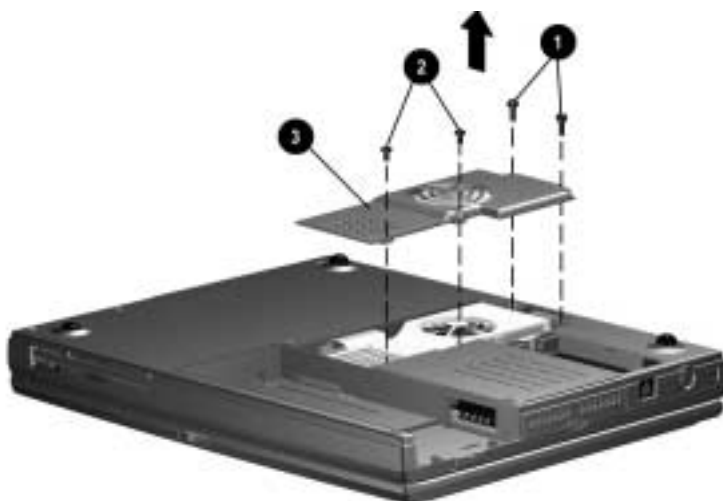

Figure 5-6. Removing the Fan/CPU Cover
3. Remove the four screws securing the fan/CPU cover to the base assembly. Note that the two screws removed from the back edge of the cover **1** differ in size from the other two screws **2** (Figure 5-6).